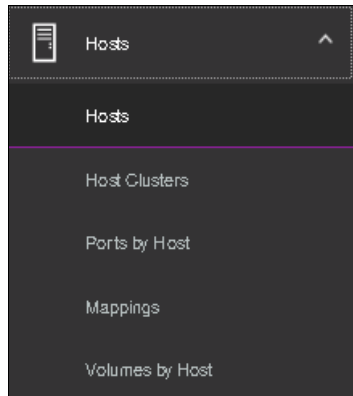

Figure 8-10 Hosts
1. From the main navigation pane, Click **Hosts** as shown in Figure 8-10 on page 355.